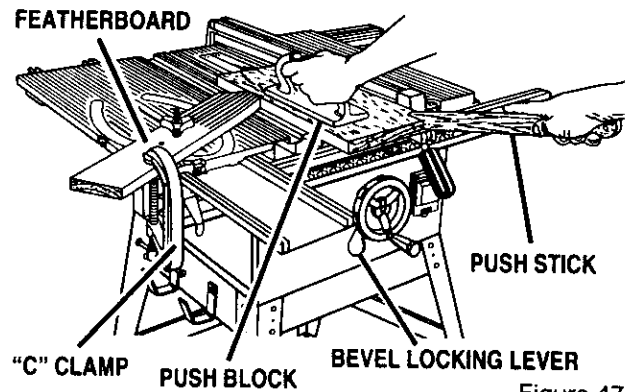

Figure 47
- Always use push blocks, push sticks, and featherboards when making non-through cuts to avoid the risk of serious injury. *See Figure 47.*